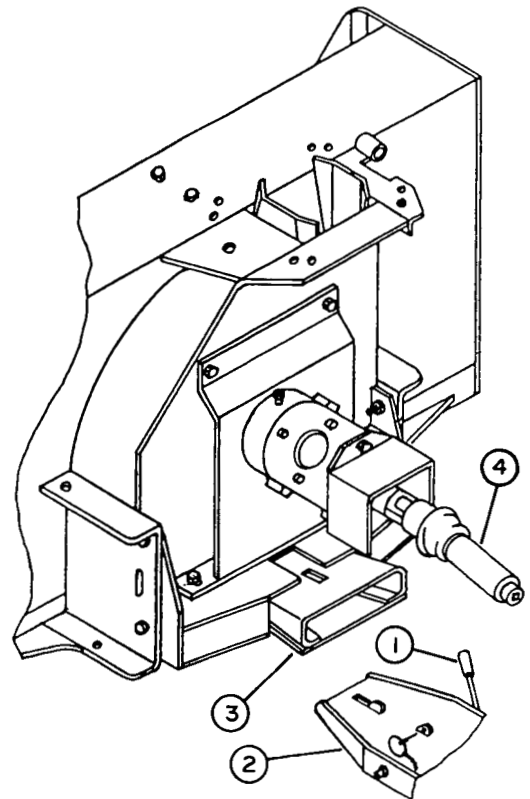

FIGURE 6
- a) Move quick hitch lever (fig.6, item 1) rearward to the unlock position. Position tractor behind snowblower and raise front male quick hitch to approximately 3/4" from the ground.
- b) Introduce male quick hitch (fig.6, item 2) into female quick hitch (fig.6, item 3) on blower. Raise male section so that it is parallel to female section and insert it all the way into female section. Raise blower and move the lever forward to locked position. Secure latch with linch pin.
- c) Connect snowblower driveline (fig.6, item 4) to PTO shaft in frame by sliding back locking collar on drive line yoke and pushing yoke over shaft until locking ring snaps back.